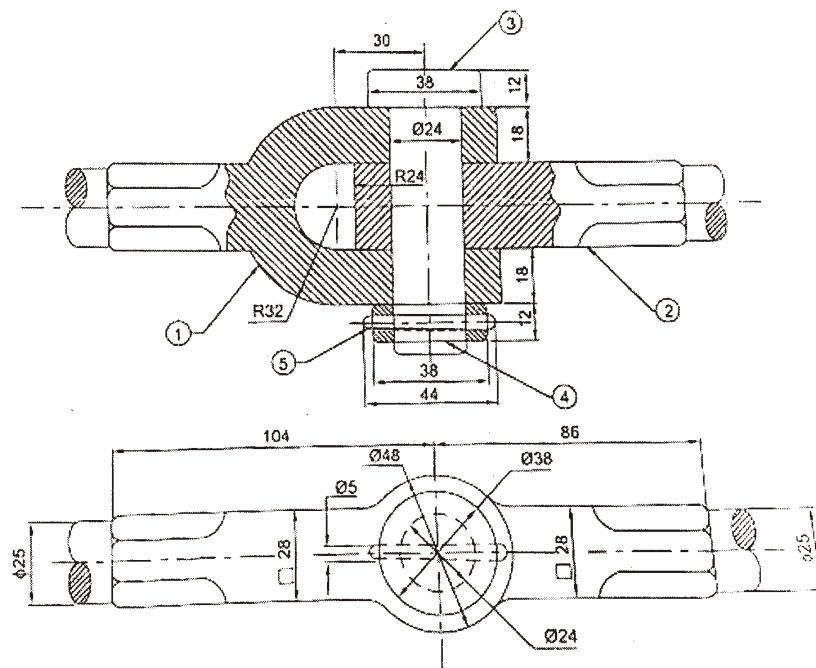

Fig. 1
- Instructions :** (1) Answer *any one* question.
(2) Each question carries **forty** marks.
(3) All dimensions are in mm. Choose suitable scale.
(4) Assume missing data proportionality, if any.
5. Study the given assembly drawing of the knuckle joint as shown in Fig. 1 below : 25+3+3+6+3=40